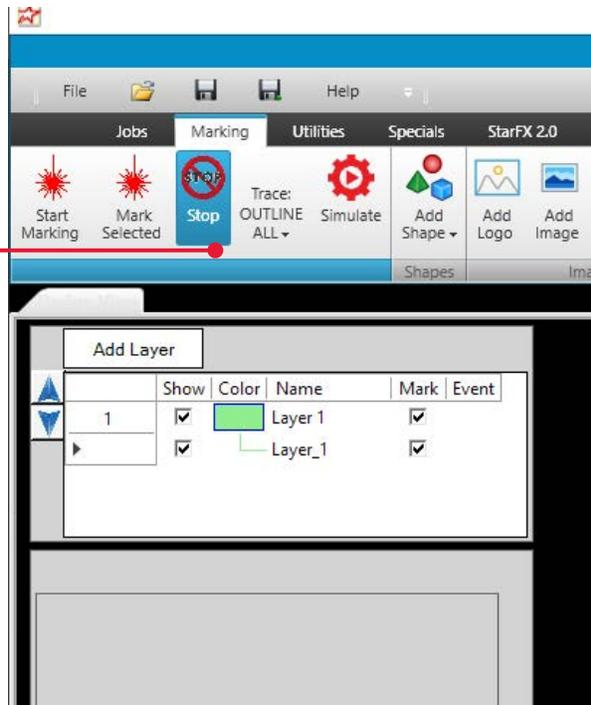

Figure 12
2. The **LaserStar StarFX® Premier software (Figure 12 on page 37)** indicates that the laser is running when “marking” is displayed on the laptop computer screen.
<p>Select the stop icon on the StarFX® Premier software icon ribbon (Figure 12 on page 37).</p>	<p>The red laser pointing diode will turn “off.”</p>